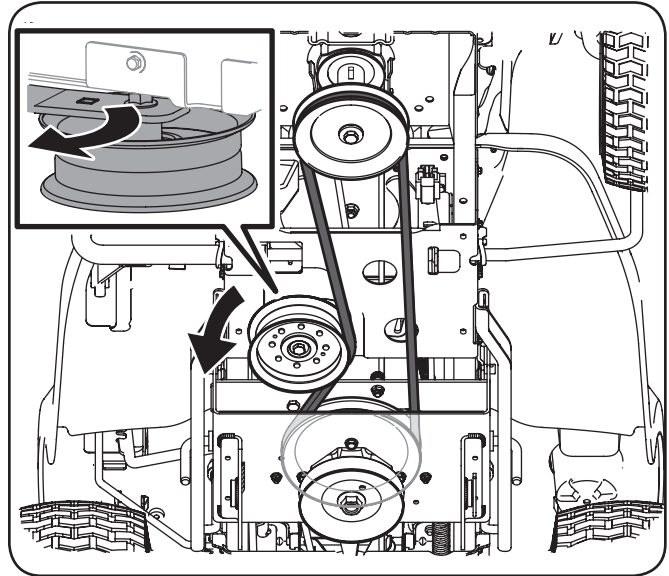

**Figure 3-9**
9. If your tractor is equipped with a **Manual PTO**, and the belt keeper rod wasn't removed from the tractor when the deck was taken off, remove it before proceeding to the next step. See Figure 3-9.